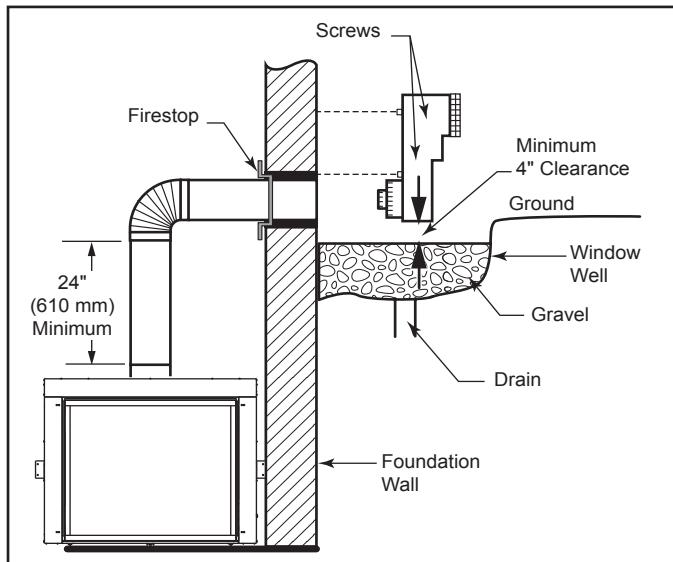

Figure 5.9 Below Grade Installation
supplied). Refill hole with 12" of coarse gravel leaving a clearance of approximately 4" below snorkel. See Figure 5.9.
- Level the soil so as to maintain a 4" clearance below snorkel. See Figure 5.9.